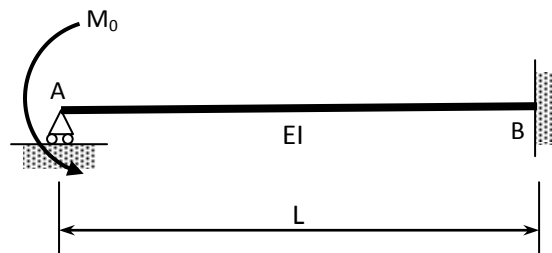

Figure 6
4. (a) Show that the reaction force at A is equal to $1.5M_0/L$ for the propped cantilever beam shown in Figure 6. Use method of least work.